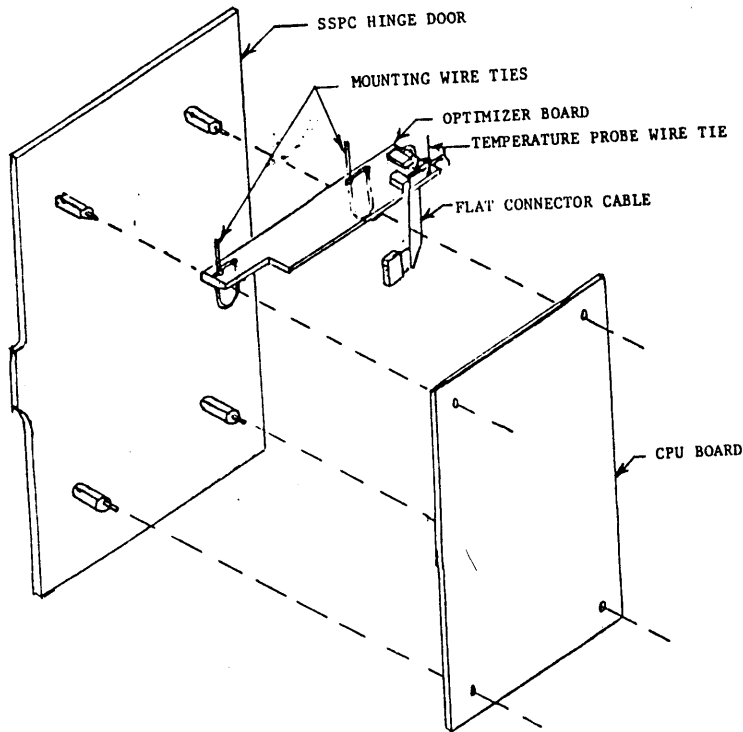

Figure OP-2
The Optimizer option consists of a circuit board mounted to the top of the CPU board (see Figure OP-2) and a set of temperature probes sensing the refrigerated air temperature. The Optimizer can be ordered with new SSPC's or can be added to most SSPC's already installed in the field. All other SSPC option boards are compatible with the Optimizer board.
- (1) Optimizers can not be used on some CPU boards without a modification. CPU boards marked "WT-008-00 Rev. C" in the middle right section do not require modifications. All other boards require the addition of a factory installed jumper wire before mounting the Optimizer. The change to Rev. C occurred around October, 1980 and was incorporated in SSPC's by serial number 7500.
- (2) Install the Optimizer as shown. The CPU board must be loosened from the circuit board supports far enough to allow the tie-wraps to loop over the supports. The CPU board is then repositioned on the supports and only then are the mounting tie-wraps tightened. Clip the tie-wrap's loose ends.
- (3) Fold the flat cable as shown in Figure OP-2 and plug into C/I receptacle on the CPU board. If the CPU board has a phase protect board or computer interface board, then a special flat connector cable needs to be specified on the order for the Optimizer. The special cable will have an extension that will plug into the optional board. The existing cable to the optional board will not be used.
- (4) Mount the provided temperature probe set to sense air temperature in the system requiring the lowest suction pressure. Each probe reflects half the sensed temperature. The best control is achieved by mounting one probe in the discharge air and the other in the return air of the same refrigerated fixture. These probes are calibrated as a set that can be connected to any Optimizer; however, do not mix probes among sets.